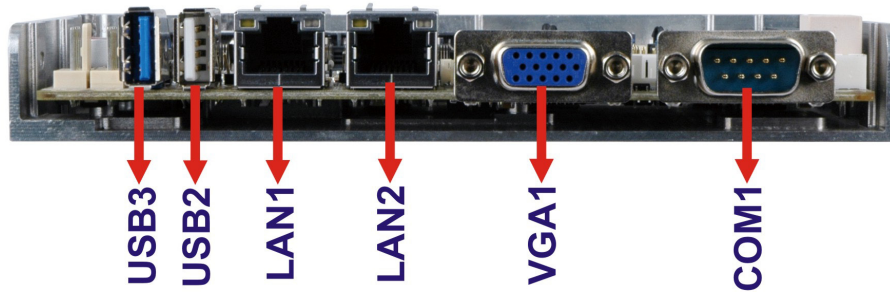

Figure 3-24: External Peripheral Interface Connector
Figure 3-24 shows the WAFER-BT external peripheral interface connector (EPIC) panel.
- CN Location: See **Figure 3-24**
CN Location:	See Figure 3-24
- CN Location:** See **Figure 3-24**